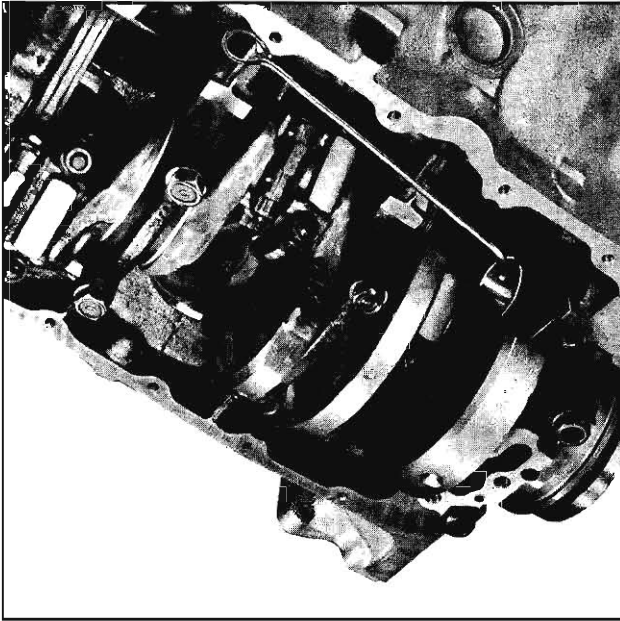

Fig. 3-446 Checking No. 5 Oil Hole
2. Use BT-6409-9 to check oil hole opening as shown in Fig. 3-446.